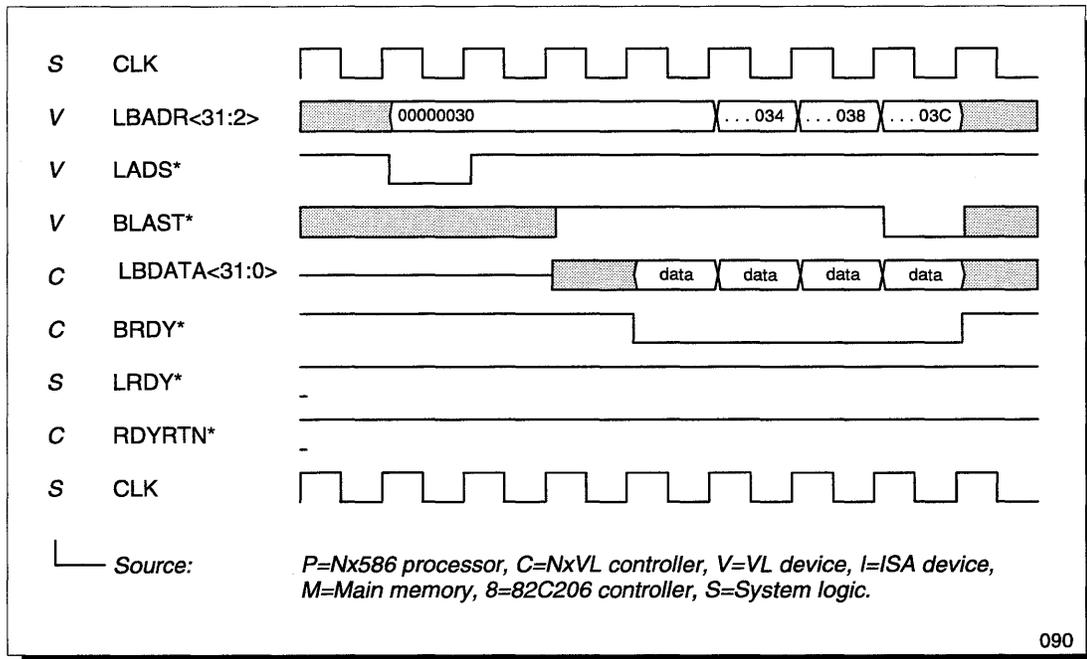

Figure 46 VL-Master 16-Byte Burst Read from Main Memory (Queue Hit)
properly sampled to determine whether LRDY* or BRDY* indicates the termination of the cycle. In burst operations, BRDY* is asserted one clock earlier, as shown in Figure 46, below. The NxVL is designed with the assumption that most VL-bus devices will support bursts, so burst cycles are given a performance advantage over single cycles.
Figure 46 shows a VL-master 16-byte burst read from main memory that hits in the NxVL's read queue. The VL master drives the address, cycle-definition signals (not shown), and all byte-enable bits (not shown). At the same time, it asserts LADS*. The first address is latched one clock after LADS* goes inactive. BLAST* becomes valid at this same time and is held negated until the last of the four 32-bit transfers. The transfers begin when the NxVL asserts
The example in Figure 46 does not include a snoop cycle on the NexBus because it assumes that the NxVL has found the status of the address among the last four snoop addresses that it stores. Any read cycle initiated by a VL master is treated as a MESI-protocol *exclusive* read. If the read hits the Nx586 processor's cache, the processor will (1) change its copy to the *invalid* state if the copy is in the *exclusive* state, or (2) intervene in the VL master's cycle to write-back its copy if it is in the *modified* state.